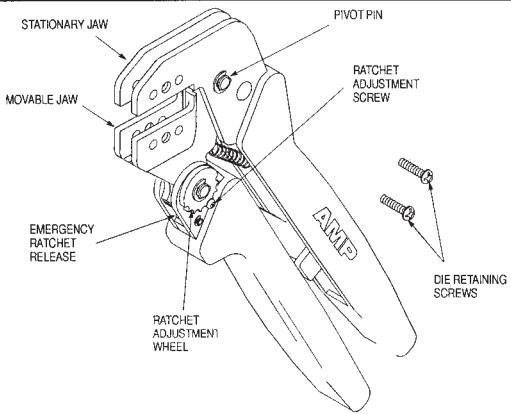

Figure 1
- Added plastic bushing, brass tube, and step-down ferrule to Figure 1.